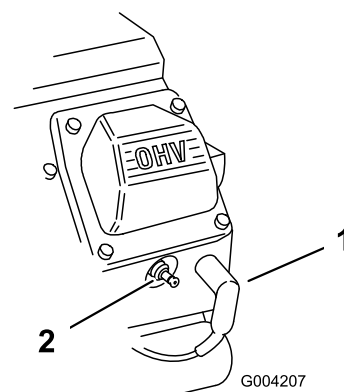

Figure 166
3. Assemble the spark-plug wires onto the spark plugs (Figure 166).